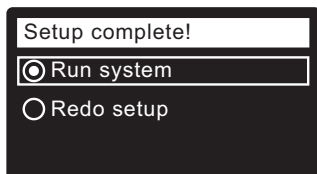

FIG. 25
16. Press the SELECT (O) button. The screen will show “Setup complete!” (See Figure 25).
17. If, at this point, you want to go back and make changes, press the DOWN (▼) button to scroll to **Redo setup**, then press the SELECT (O) button twice to repeat the “wizard” screens.
18. If no changes are desired, make sure **Run system** has a dot next to it (See Figure 25) and press the SELECT (O) button. The unit begins normal operation.